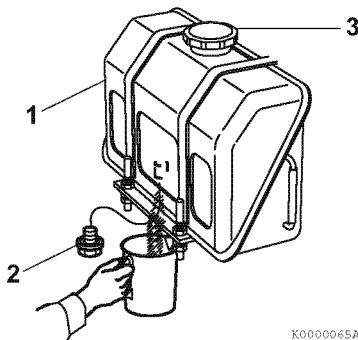

Figure 5-6
1. Position an approved container under the diesel fuel tank (**Figure 5-6, (1)**) to collect the contaminates.
2. Remove the fuel cap (**Figure 5-6, (3)**).
3. Remove the drain plug (**Figure 5-6, (2)**) of the fuel tank to drain the contaminates (water, dirt, etc.) from the bottom of the tank.